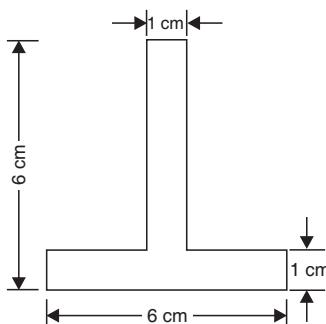

Fig. 7.45
3. Find the centroid of the lamina shown in Fig. 7.45.